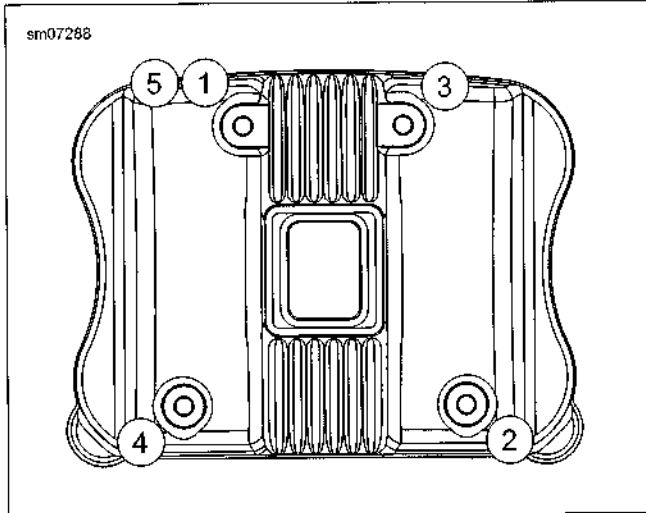

Figure 3-75. Outer Cover Torque Sequence
3. See Figure 3-75. Tighten fasteners (1, 2, 3, 4) in sequence and then re-tighten the first fastener (5) to 120-168 **in-lbs** (13.6-19.0 Nm).